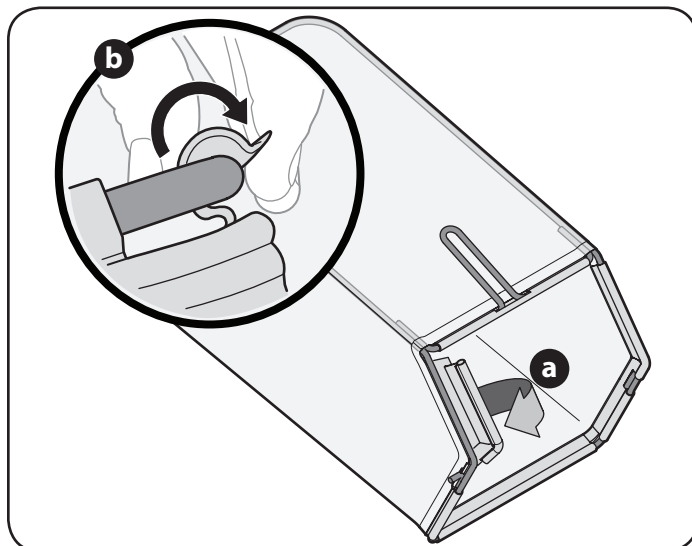

Figure 7
- Slip plastic channel of grass bag over hooks on the frame. See Figure 7.